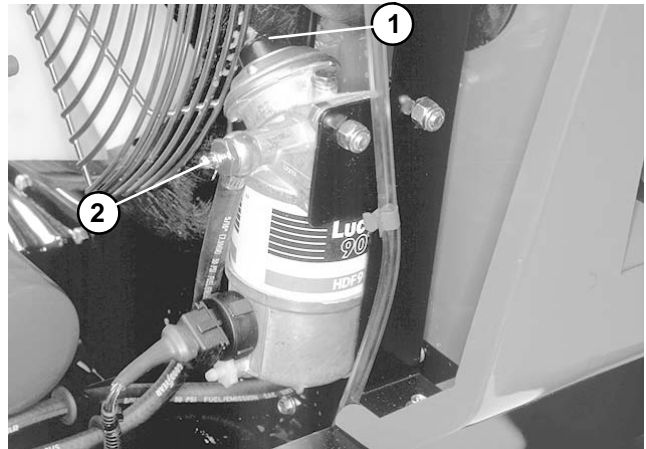

Figure 8
3. Insert a 3/16-inch hose over the bleed screw, and run the other end of the hose into a container to catch the fuel (Fig. 8).
4. Loosen fuel filter/water separator bleed screw a few turns. Pump priming plunger until a steady stream of fuel comes out of hole in in bleed screw. When fuel stops foaming, tighten the bleed screw **during the down-stroke** of the priming plunger. Wipe up any spilled fuel (Fig. 8).